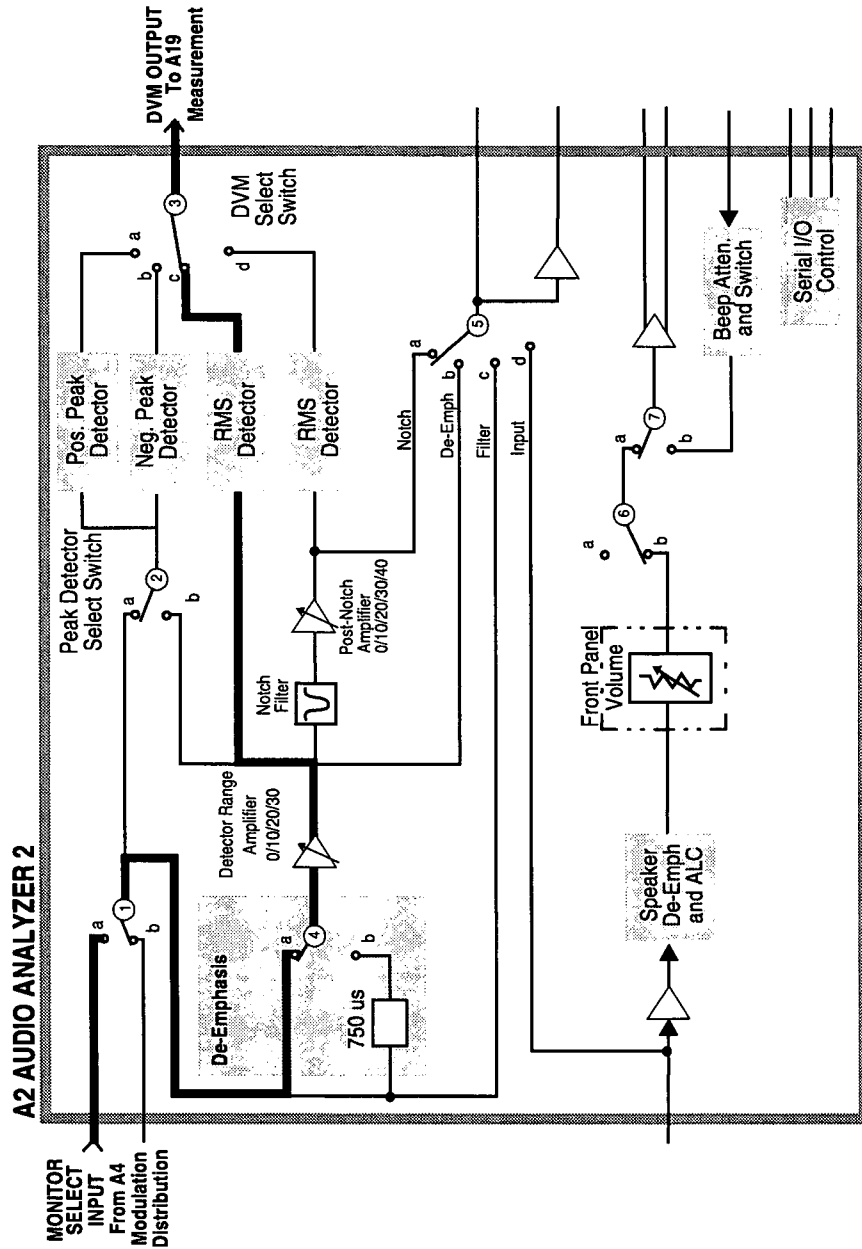

Figure 71
The gain of the Detector Range Amplifier (Paths 5 to 7) is 3.16, 10, and 31.6 corresponding to gains of 10 dB, 20 dB, and 30 dB. The gain of the Post-Notch Amplifier (Paths 11 to 14 in **figure 71**, "**Audio Analyzer 2 Path 8**," on **page 637**) is similar.
- For Test Sets with the variable-frequency notch filter, the input is set to 1 kHz and the notch output is nulled using a notch-error detector in conjunction with a DAC-setting routine. (The notch-error detector is not shown in **figure 71**, "**Audio Analyzer 2 Path 8**," on **page 637**, but it is multiplexed with the pre-notch RMS detector.)